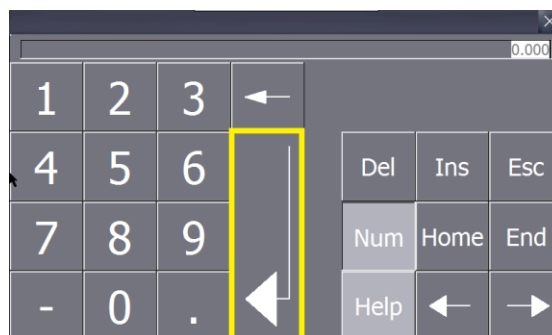

Figure 7-8 Edit Parameter Value & Press Enter
- a. To adjust a parameter, press its white **value field**, enter new value using **number keys**, and press the **Enter** button which is outlined in yellow in Figure 7-8 below.